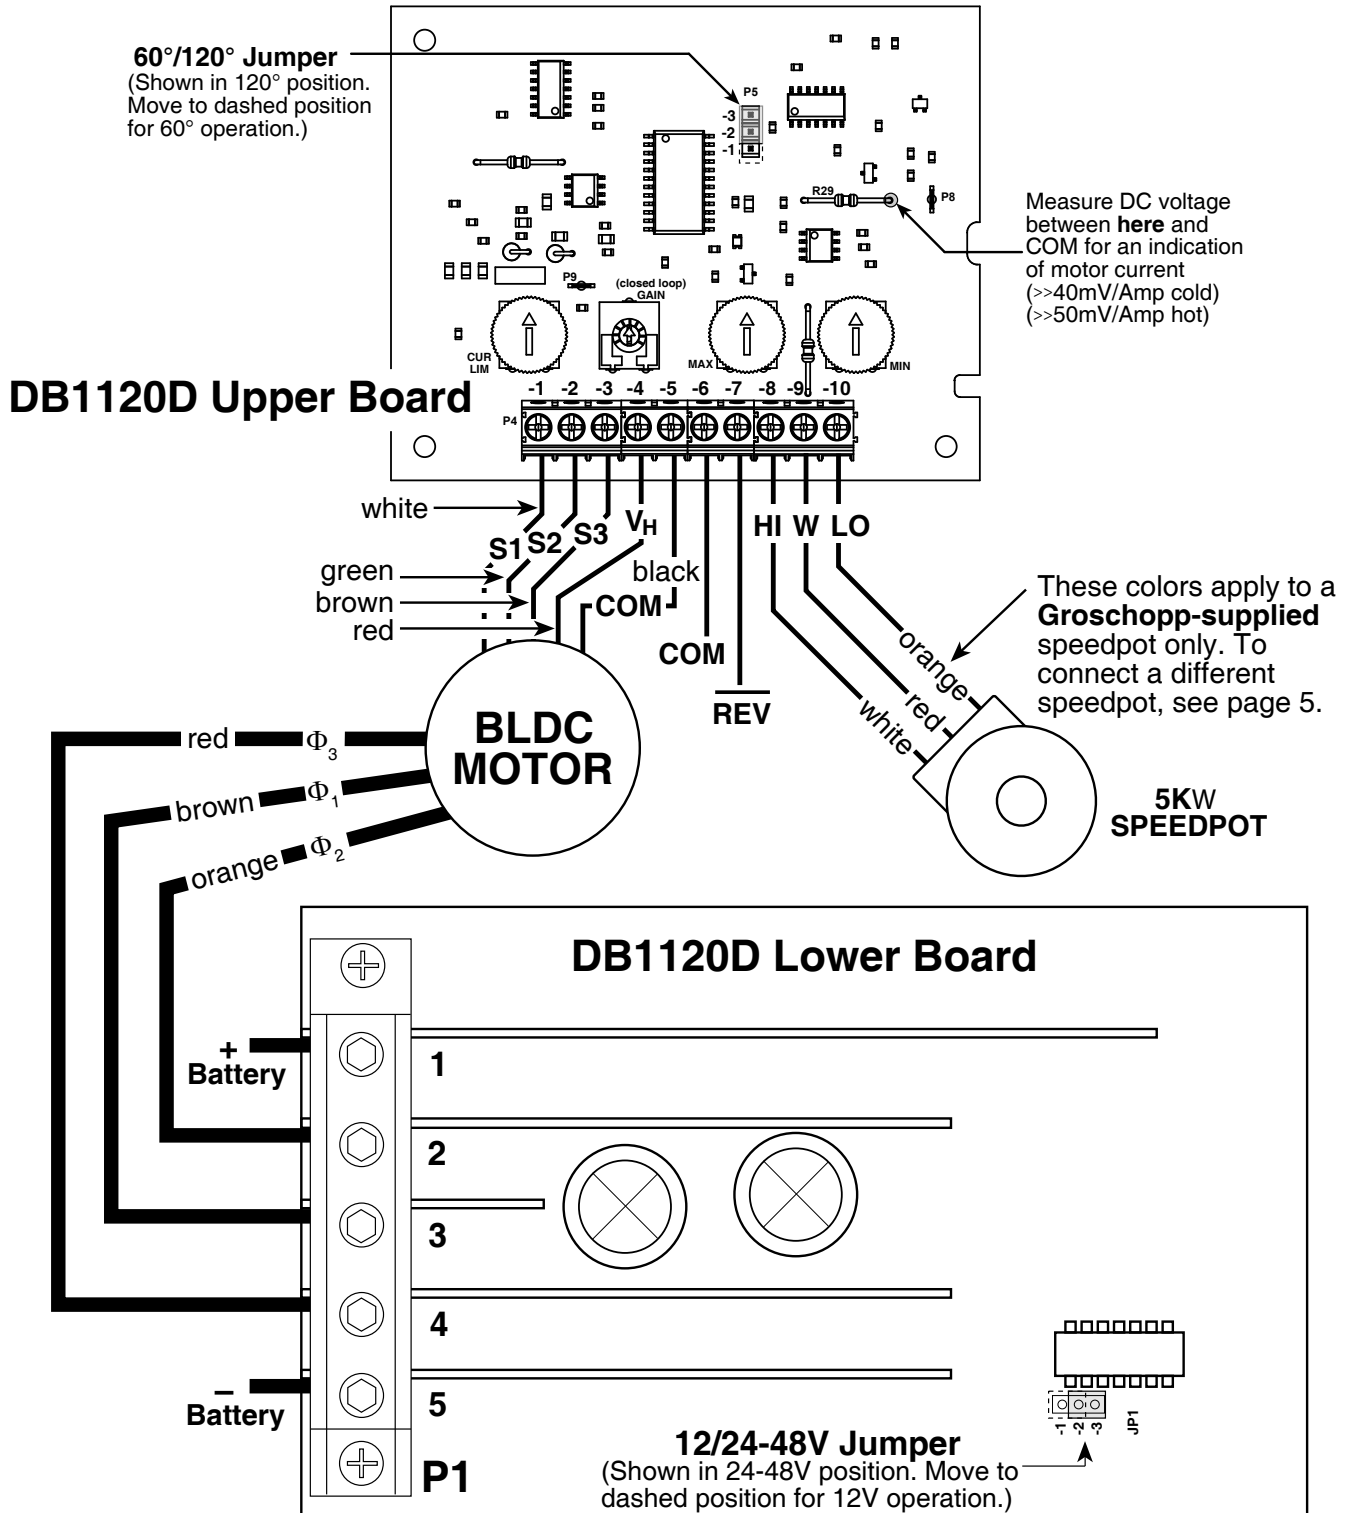

Figure 1
| DB1120D Series Hook-Up Diagram (Figure 1) .....   | 4   |
There is a jumper on the **lower board** to accommodate two ranges of dc source voltage. This jumper is shown near the bottom of Figure 1 (page 4). If you have a 12 volt DC source, the jumper must be placed in the left-most (dashed) position, as illustrated in Figure 1. With DC sources from 24 to 48 volts, the jumper must be placed in the right-most (solid) position, which is also illustrated in Figure 1.
There is a jumper on the **upper board** to switch between 60° and 120° Hall sensor spacings. This jumper is shown in the upper left portion of Figure 1 (page 4). Place this jumper in the left-most (dashed) position for 60° operation, or in the right-most (solid) position for 120° operation. Groschopp standard motors are designed for 120° spacing and DB1120D drives are set to 120° spacing by default.
Return to the section "60°/120° Sensor Spacing" (page 3) and make sure the control is set to 120° spacing. Return to Figure 1 and connect the sensors to terminals P4-1 through P4-3.
After the sensors are connected, attach the sensor power line (notated by  $V_H$  in Figure 1) to terminal P4-4. The sensor common line (notated by COM in Figure 1) is connected to terminal P4-5. Now attach the three motor armature wires and test for proper hook-up.
Now apply power to the control. Slowly turn the speedpot CW. Watch for erratic rotation or current over 2 amps. If any of these conditions occur, immediately return the speedpot fully CCW, and turn off the power. Refer back to Figure 1 and make sure the motor and drive are correctly connected.
- 1) Refer to figure 1 on page 4. Measure the DC voltage (with reference towards COM) at the point indicated on the upper board, then divide by 40mV to obtain the motor current in amperes.
The standard DB1120D series control is a closed loop device. These controls use additional circuits to transform the sensor signals into tachometer information and accurately control the speed of the motor. A trimpot labeled **Closed Loop Gain** (Shown in Figure 1 on page 4) is used to adjust the closed loop feedback to allow the drive to be used for a wide variety of motors.
- 1) Set the Maximum Speed (MAX.) trimpot to the position shown in Figure 1 on page 4.
- 3) Advance your speedpot to the fully clockwise (CW) position. Your motor should now be spinning at its maximum speed.\*